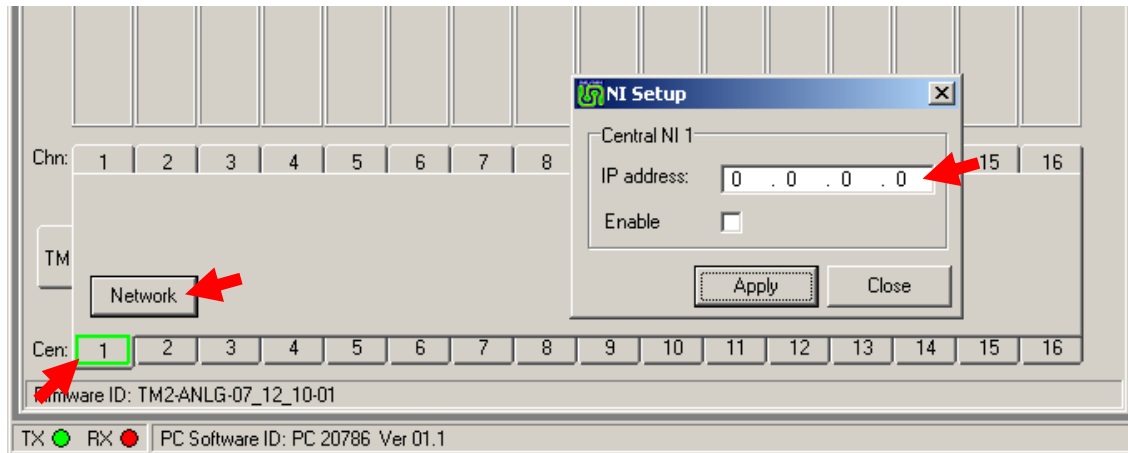

Figure 27. Allocating a Central NI.
1. On the TM ET window, open the Central Interface status panel #N by clicking on 'Cen:' #N tab (indicated in **Figure 27**).